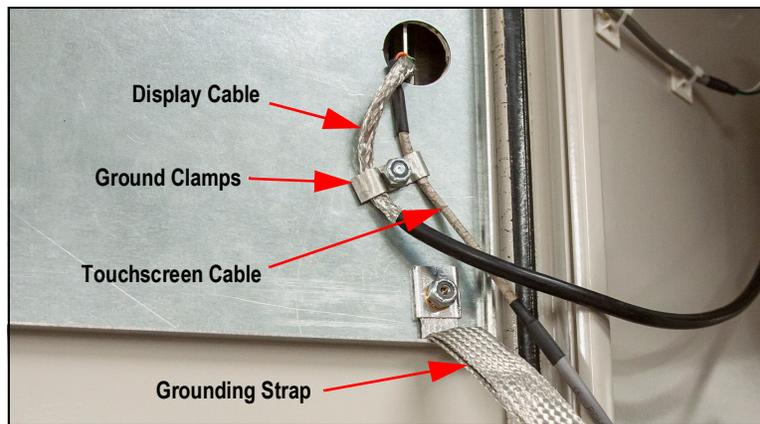

Figure 2. Panel Mount Shield Grounding
5. Strip back the shielding of the display cable 1-2 inches, so the exposed wire makes contact with the ground clamp in the following step (Figure 2).
Note *The photo in Figure 2 is for illustration only and may not represent all panel mount applications. Grounding location and exact stud placement may vary.*